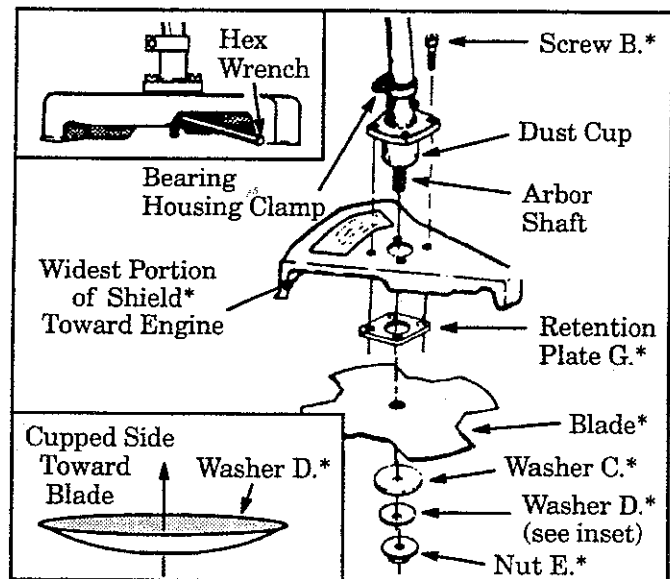

Figure 4
Failure to install the shield in the position shown in Figures 4 and 5 can result in serious injury to the operator. The length of the shield must be aligned with the length of the drive shaft housing. Direct widest part of shield toward the engine.
2. Hold retention plate "G." in position and place the metal shield under the bearing housing. Align screw holes. Figure 4.
3. Insert screws "B." (one at a time) through bearing housing, shield, and retention plate "G." Figure 4.
6. Install the blade over arbor shaft, making sure the hole in the center of the blade is fitted around the raised center step on the dust cup. Figure 4.
7. Install washer "C.", cupped washer "D.", and nut "E." Figure 4. Be sure cupped washer "D." is installed as shown in the lower inset in Figure 4.
8. Align the hole in the dust cup with the hole in the side of the bearing housing by turning the dust cup. Figure 4 (upper inset).
9. Insert large hex wrench (provided) into the aligned holes to keep arbor shaft from turning. Figure 4.